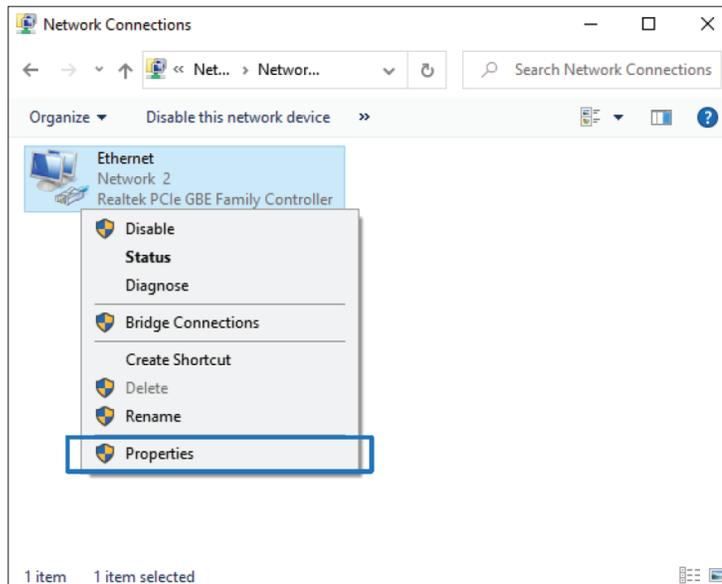

Figure 4
4. Right click on Ethernet Icon and select “Properties”. (Figure 4)